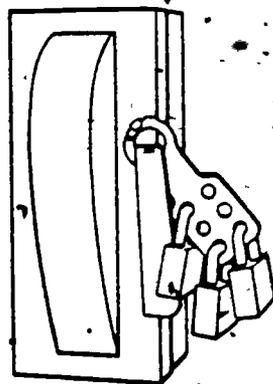

Figure 14. Multiple lockout hasp.
4. If there are numerous people working on the same circuit for different reasons a multiple padlock hasp is employed so that each section performing the needed work is protected. Figure 14 shows an example of just such a hasp.